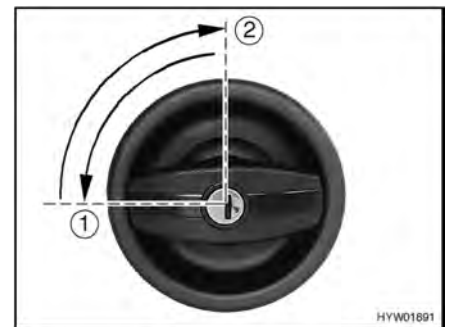

Fig. 23 Door lock of conversion door, outside, locking
- Insert the key into locking cylinder and turn a quarter turn in an anticlockwise direction (Fig. 23,1).
- Return the key to the central position (Fig. 23,2) and remove it.